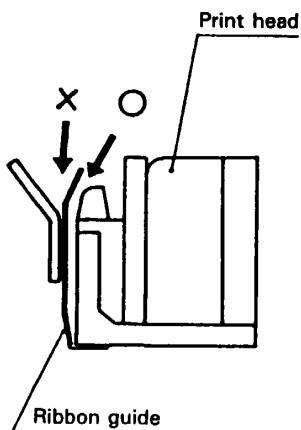

Fig. 4
- 2) While inserting the ribbon into the space between the print head and the ribbon guide, press the cassette into the holder unit it clicks into place. (Ref. to Fig. 4&5)